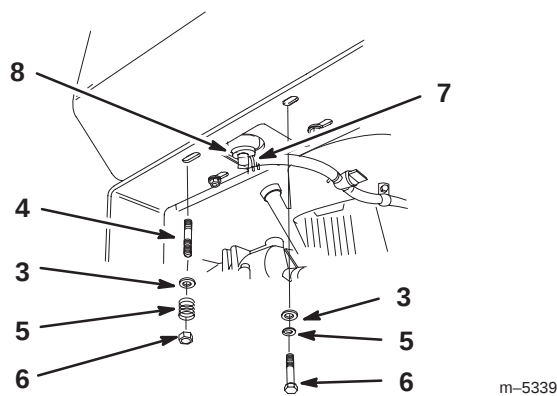

Figure 2
1. Align fuel tank to top of rear frame and secure fuel tank right side with 2 bolts (5/16 x 7/8 in.), 2 lock washers (5/16 in.) and 2 washers (5/16) (Fig. 2).
2. Secure fuel tank left side to frame with 2 studs (5/16 x 7/8 in.), 2 washers (5/16 in.), 2 springs and 2 locknuts (5/16 in.) (Fig. 2).
- Slide the hose clamp onto the fuel line (Fig. 2).
- Push the fuel line onto the fuel tank connection and secure it with a hose clamp (Fig. 2).